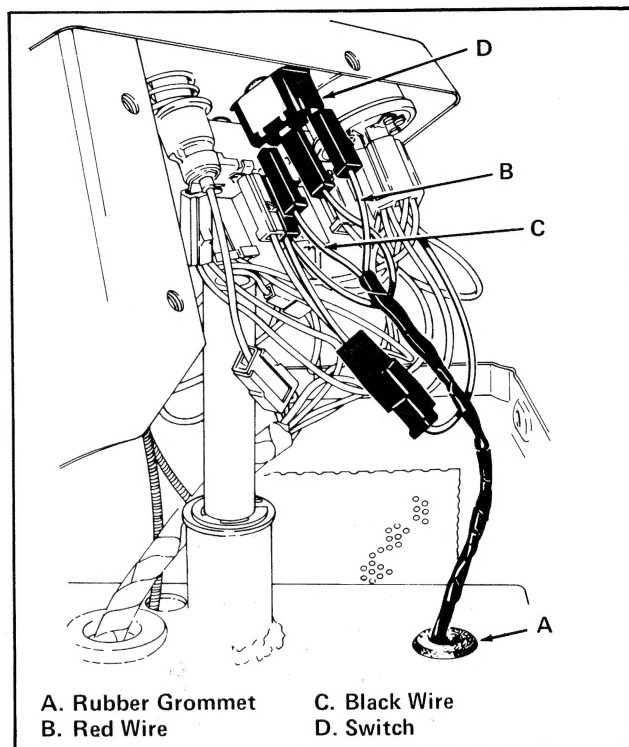

Figure 24. Connect Terminal to Spout Switch
5. Install new rubber grommet (item A, figure 24).
8. Route two connector ends of spout control harness through the rubber grommet (item A, figure 24).